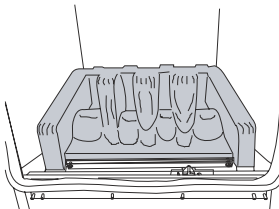

Figure 24
1. Position the rear burner ceramic behind the rear burner flange, see **Figure 24**